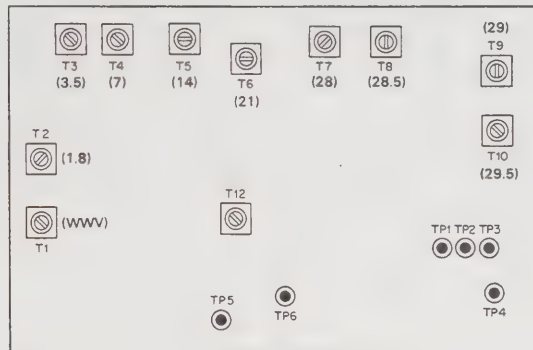

Fig. 22 VCO unit
- 1) Connect the voltmeter to TP4 in VCO unit (X50-1330-00) of PLL unit (X60-1010-00) (refer to Fig. 22).